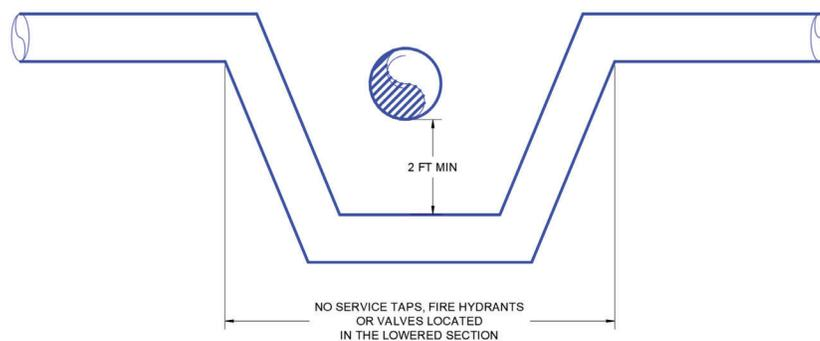

Figure 8- Lowering
3.17. Water service line(s), valve(s), and/or fire hydrant(s) must **NOT** be connected to the water main in the lowering portion of the water main crossing, unless expressly noted and approved by the Private Development Manager. See Figure 8.